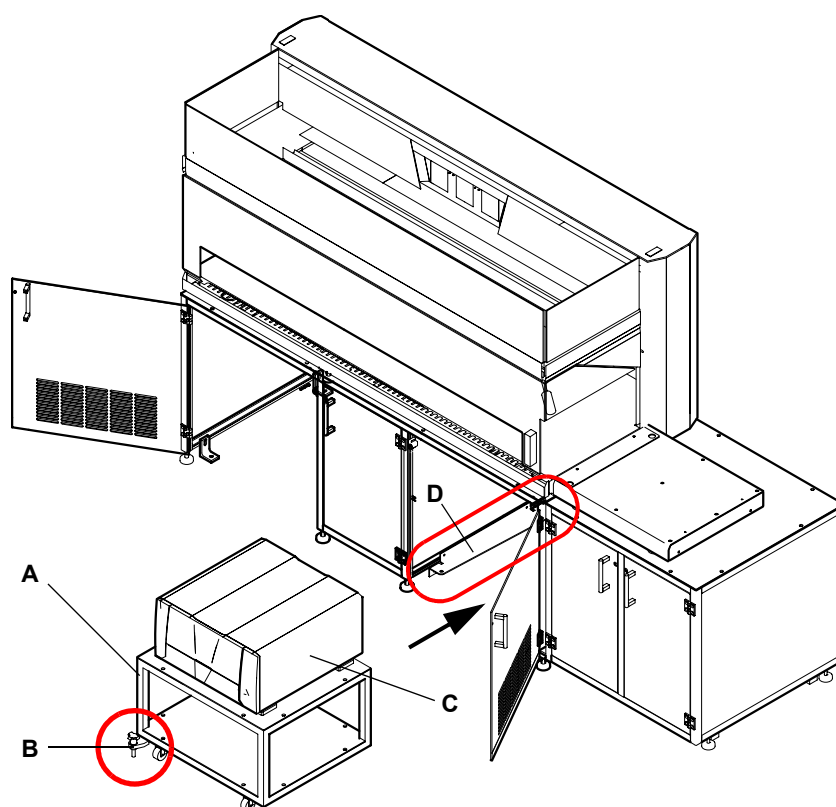
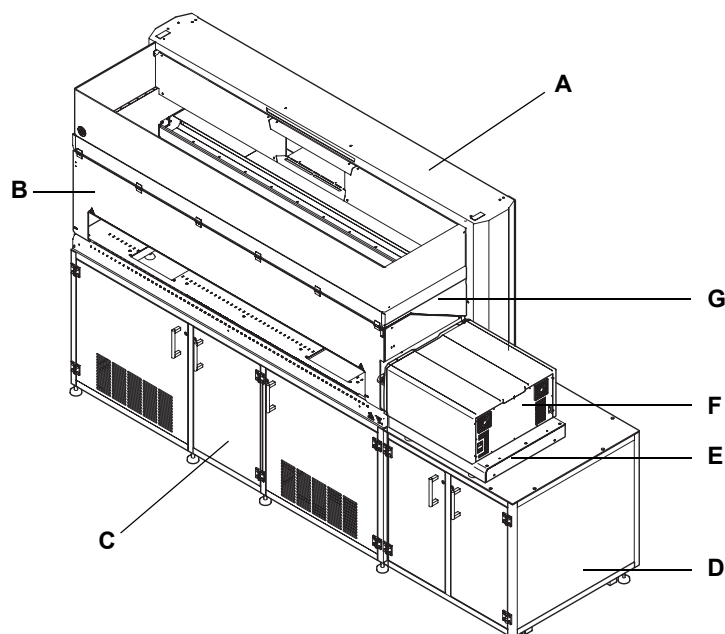
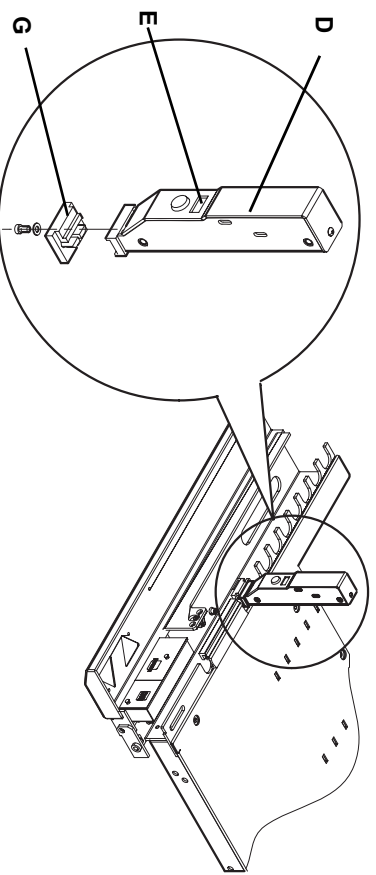

Fig. 5-12 Installation of reader in right compartment of cabinet
Fig. 5-15 Installation of reader on worktable extension
Fig. 5-17 Reinstalling the door lock
- 1 Screw the flange (B) near the left bottom corner to the frame of the trolley..
- Safire²: Make sure you mount the adapter plate with the center hole (G) in the rear position.
- 3 Place the reader on the trolley (see Fig. 5-12, Fig. 5-15).
- Ensure that the front safety panel is correctly aligned with the outer edge of the **left side safety panel** of the instrument (also see Fig. 5-15, Fig. 5-17).
- Mechanically check whether the door lock catches (K) fit correctly in the slots (E) of the door locks. Adjust the position of the door locks as necessary.